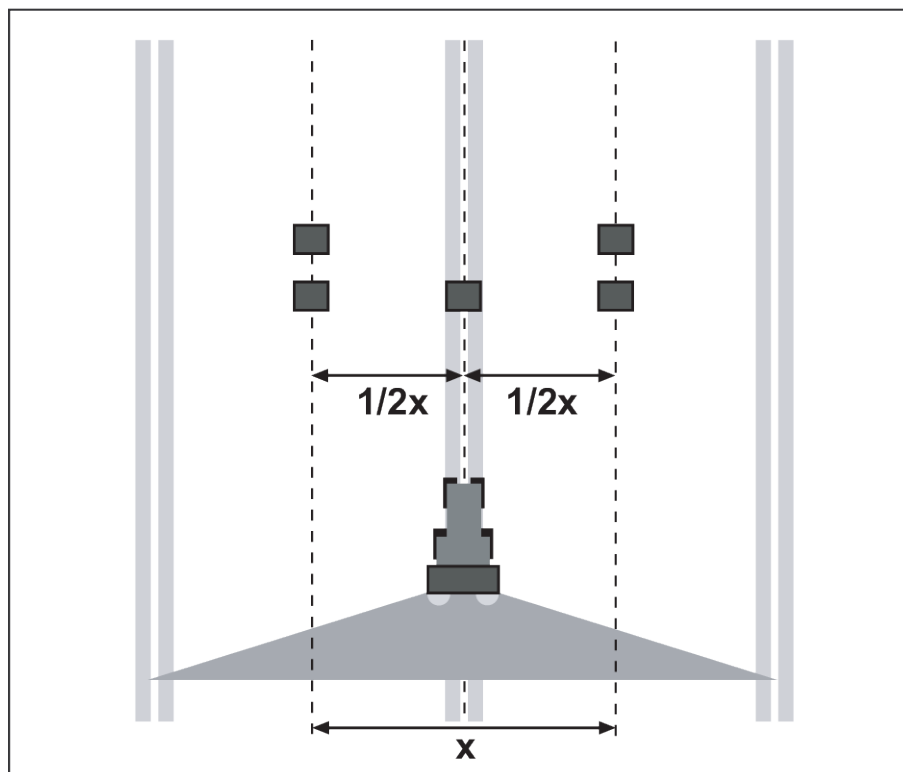

Fig. 53: Layout for one passage
- ▶ Place two collecting vessels one in front of another at a distance of **1 m** in the overlap zones (between the tracks) and one collecting vessel in the track (according to Fig. 53)